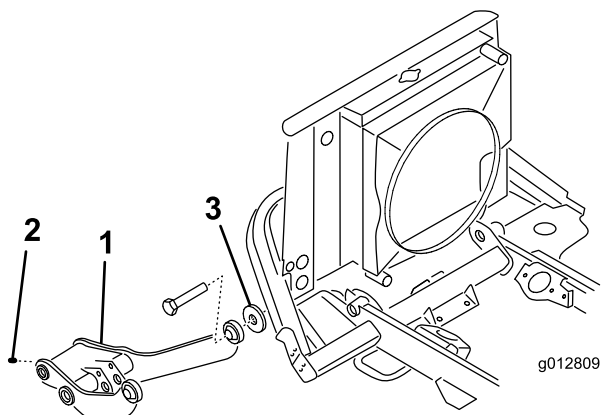

Figure 1
1. Mount the rear lift arm to the rear frame members, with 2 screws (7/8 x 4-1/2 inch), lockwashers (7/8 inch) and locknuts (7/8 inch). Position the components as shown in Figure 1. Use as many washers as possible to evenly shim between the right and left sides of the lift arm and rear frame members. Torque the screws and locknuts to 382-478 ft-lb.
2. Thread the grease fitting into the rear of the lift arm (Figure 1).